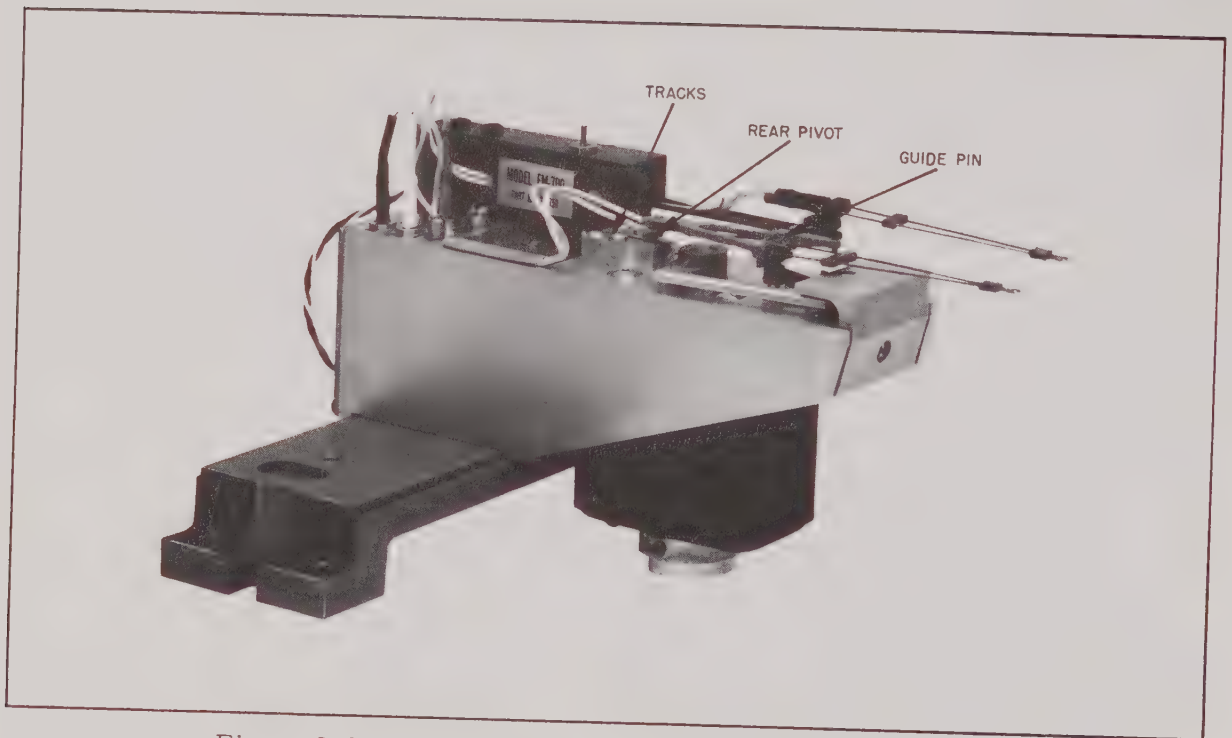

Figure 2-3. Installing and Removing Analog Style, Step 3
3. Position the pen near pivot between tracks and slip pen over guide pin (figure 2-3).